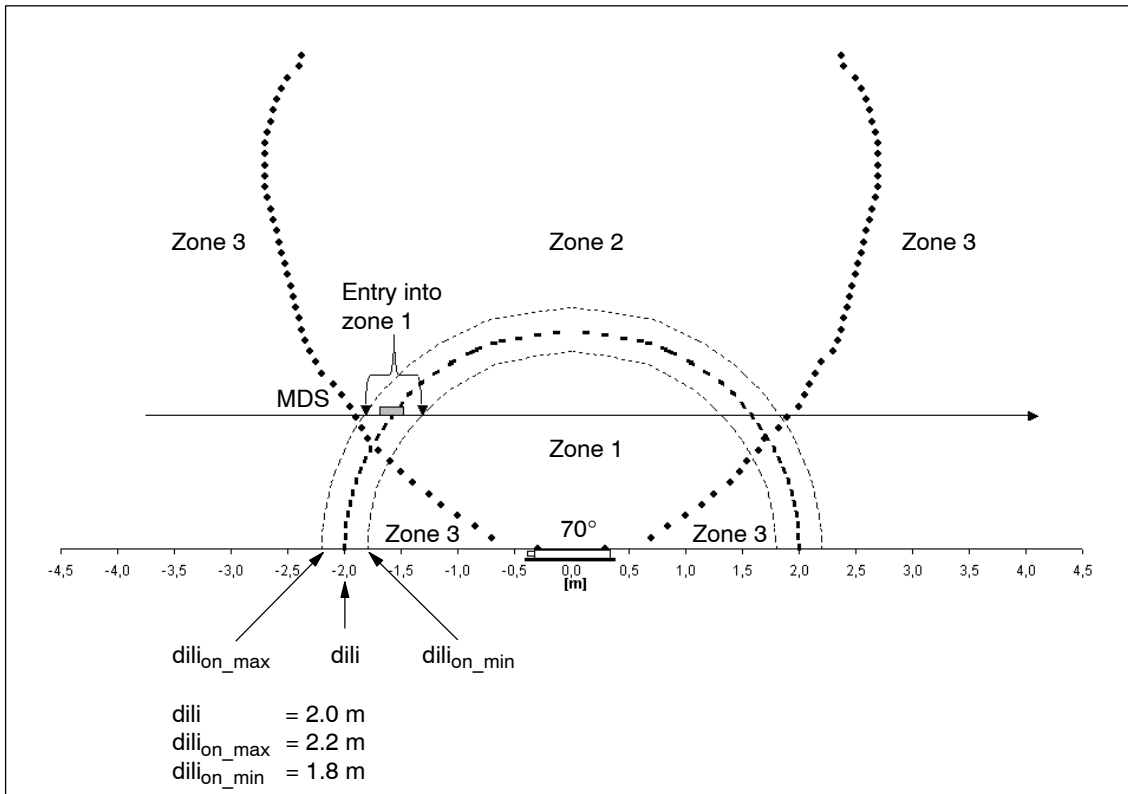

Figure 3-3 Example of case a) when the range limit  $dili = 2.0$  m
- a) Before reaching the range limit the MDS enters the SLG's field where it is recognized by the SLG for the first time. This means that when the MDS enters the SLG's field the field is larger than the range limit (see Figures 3-3 and 3-4).